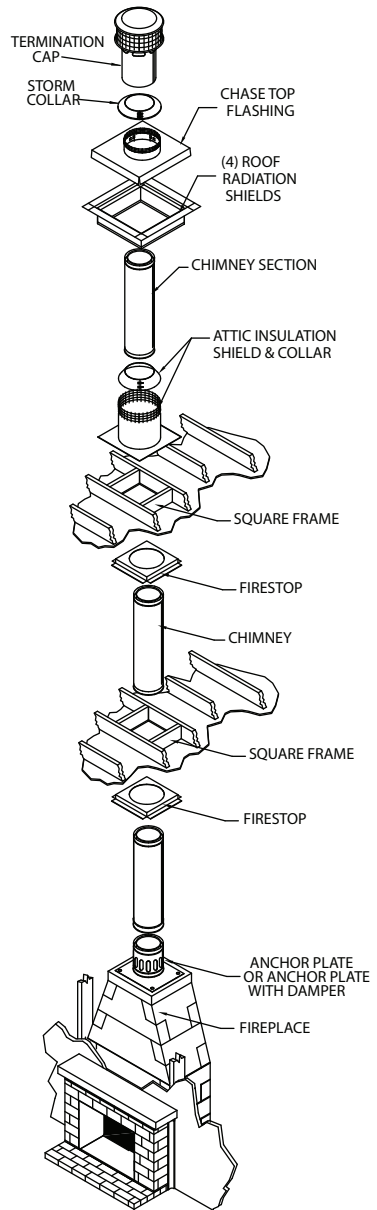
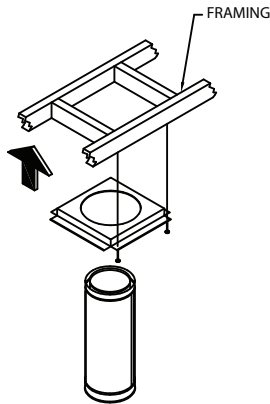

Figure 4
Figure 5
5. Frame Openings: From the ceiling, drop a plumb bob to the center of the fireplace's flue outlet and mark this center point on the ceiling. Refer to **Table 1** for the framing dimensions. Mark appropriate cutting lines around the center point. Cut a square hole in the ceiling. Frame a level, square opening centered over the hole that you have cut. Frame openings at each floor level above the Fireplace (**Fig. 4**). These openings are to hold the Firestop and Attic Insulation Shield. Locate each opening by
7. Install Firestop: A Firestop is required on each floor penetration in multistory installations. Building Codes require a Firestop at every floor/ceiling level, including where the chimney penetrates into the attic. **Figure 4** shows a typical 2-story installation with an attic. **Note:** a Firestop is not installed where the chimney penetrates through the roof. The Firestop is installed on the underside of the ceiling/floor framing (**Fig. 5**). Use a minimum of either one (1) 8-penny nail or one (1) #8, 1-1/4" wood screws per corner.